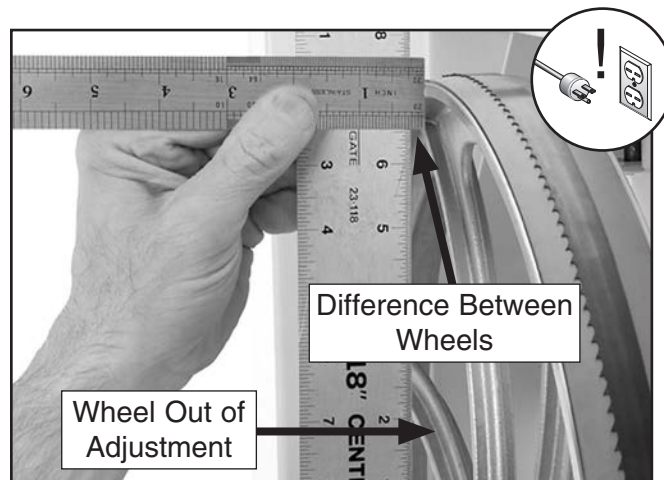

Figure 84. Determining distance needed to shim upper wheel.
3. With a straightedge touching both points of the lower wheel, measure the distance away from the upper wheel, which is out of adjustment (see **Figure 84**).